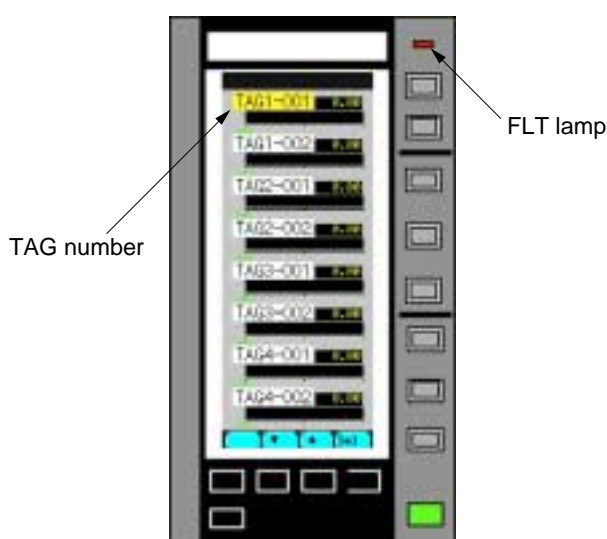

Fig. 4-3 Initial screen after turning on power
- (3) Turn on the instrument power.
- (4) After turning on, make sure the instrument is at the following status. If the status is different, immediately turn it off to stop operating.
- ① The TAG number of each LOOP is as shown in Fig. 4-3.
- ② Unusual sound, smell, etc. are absent.
* If a factory set instrument is turned on, the indication is as shown in ① above. The indication may not necessarily be so if keying has been made thereafter.